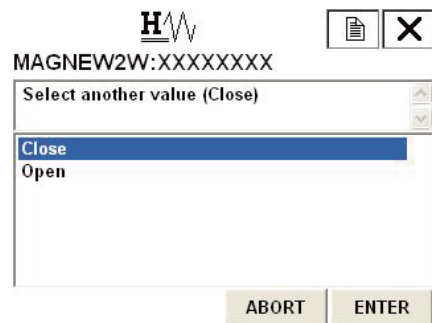

Fig. 7-89.
3. Fig. 7-89. will appear. Move the arrow key up or down to select an OPEN or CLOSE. After making a selection, press F4 (ENTER). Selected contact will be output. Press F3 (ABORT) to return to the previous menu.